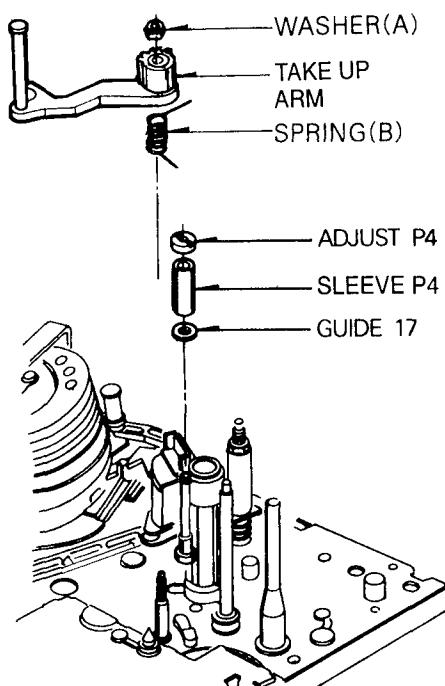

Fig. B-8 Take-Up Arm Assembly/P4
- ① When disassembling the Take-Up Lever, be careful not to break the Hook(A)
- ② When reassemble the Take-Up Lever, align the appendant Gear of Lever Take-Up with the appendant Gear of Take-up Arm
- ③ Reassemble the Take-Up Lever completely by hooking (A)
- ④ Be sure to replace together Take-Up Lever and Pinch Gear.
- ⑤ Be sure to assemble Pinch Lever Assembly before operating.
8. Take Up Arm Assembly(Fig. B-8)
9. P4 Assembly(Fig. B-8)